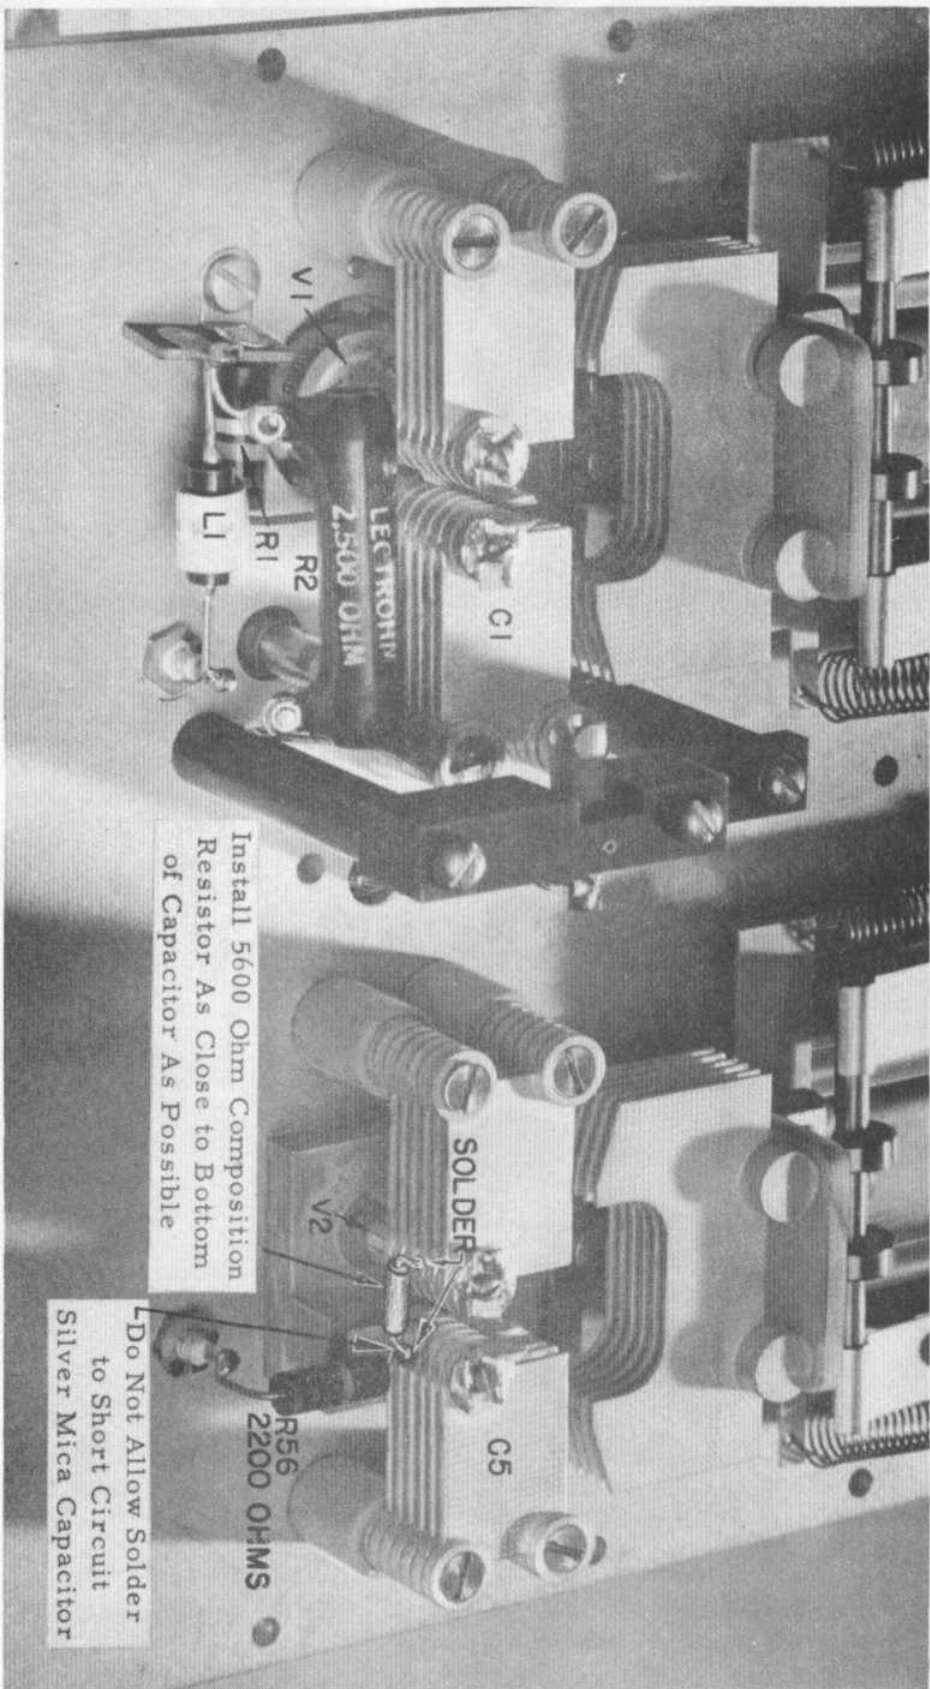

Fig. 7. Tuning Capacitors
3. Solder a 5600 ohms composition resistor between the two stator sections of the variable capacitor C5 as shown in figure 7.